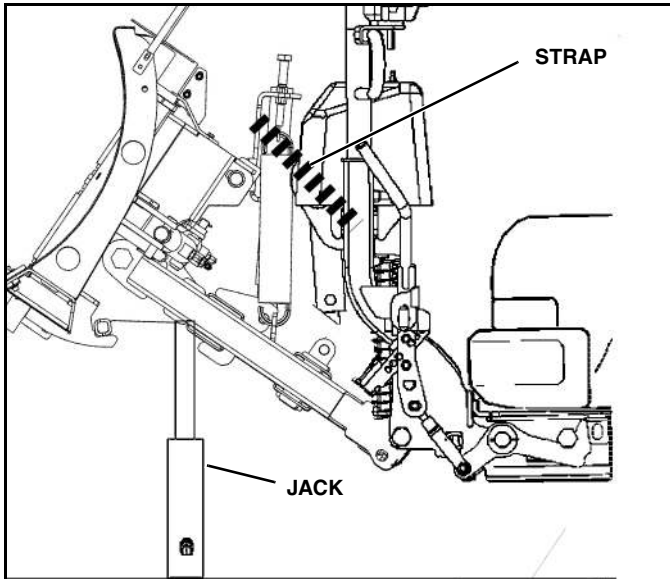

Figure 1-52
1. Set jack under plow. (See Figure 1-52).
2. Release strap and lower jack. (See Figure 1-52).